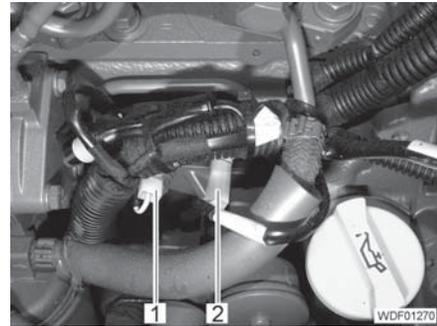

Fig. 15 Electrical connectors (center)
- Remove the connector (Fig. 15,1) from the temperature sensor.
- Pull off the connector (Fig. 15,2) from the pressure switch.